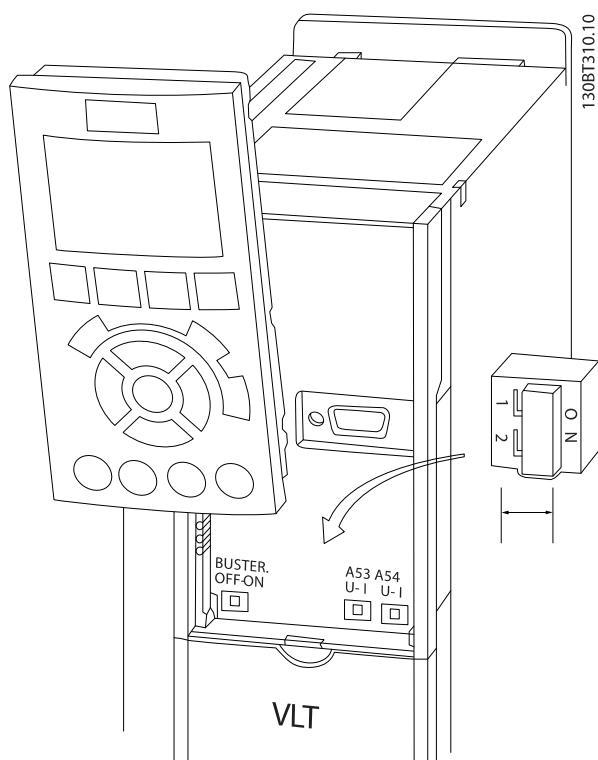

Figure 2.19 Location of Terminals 53 and 54 Switches
Figure 2.19 shows the removable adjustable frequency drive connectors. Terminal functions and default settings are summarized in *Table 2.3*.
- The switches are accessible when the LCP has been removed (see *Figure 2.19*). Note that some option cards available for the unit may cover these switches and must be removed to change switch settings. Always remove power to the unit before removing option cards.